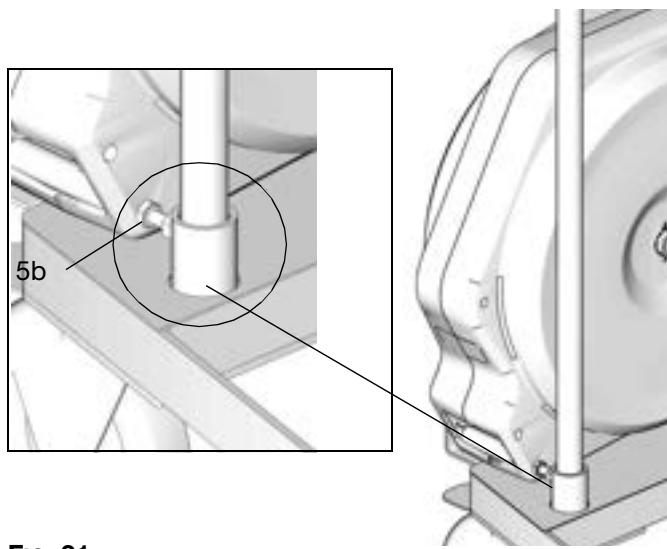

FIG. 31
3. Secure the handle sub-assembly (5a) to the cart (5) using supplied bolts (5b), using a screwdriver to tighten bolts securely (FIG. 31).